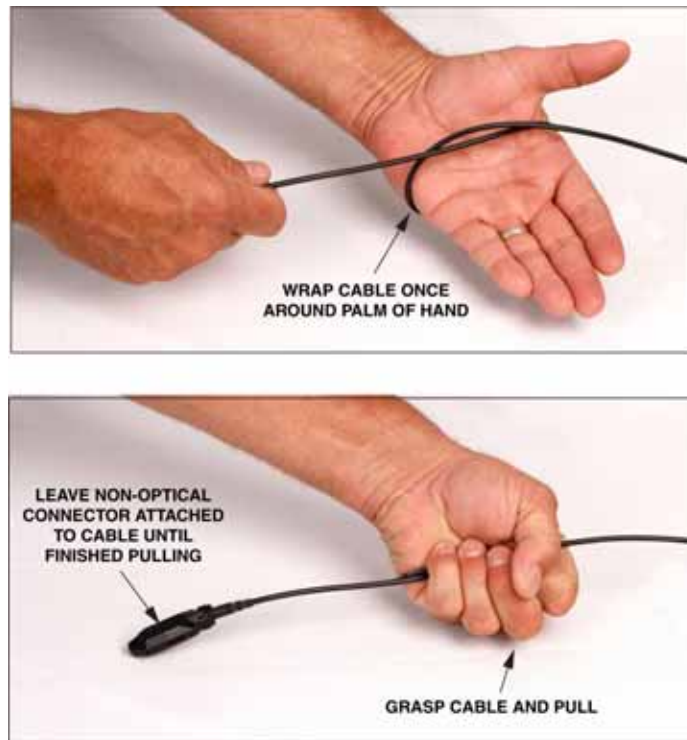

Figure 38. Hand-Wrap Method for Pulling Cable
**Caution:** Avoid using excessive force when unwinding microcable from the internal spool. Use the hand-wrap method if pulling on the cable by hand; refer to Figure 38.